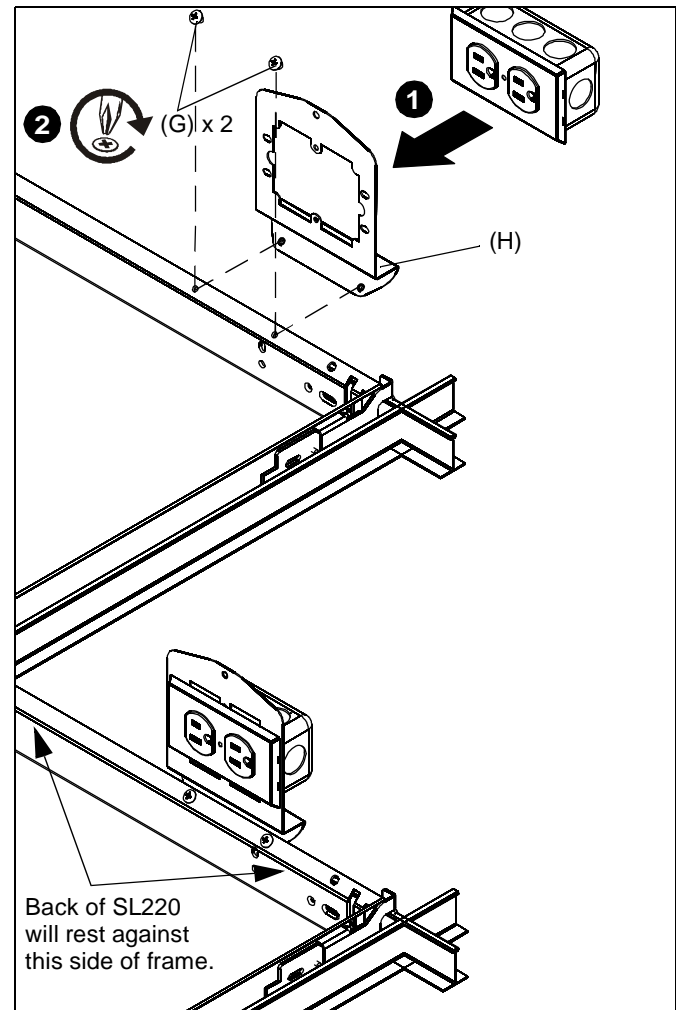

Figure 9
1. Install Listed electrical box (not included) to outlet box attachment plate (H).
2. Install the plate (H) with attached electrical box onto the SL220 frame (B) using two 8-32 x 1/4" Phillips screws (G). (See Figure 9)